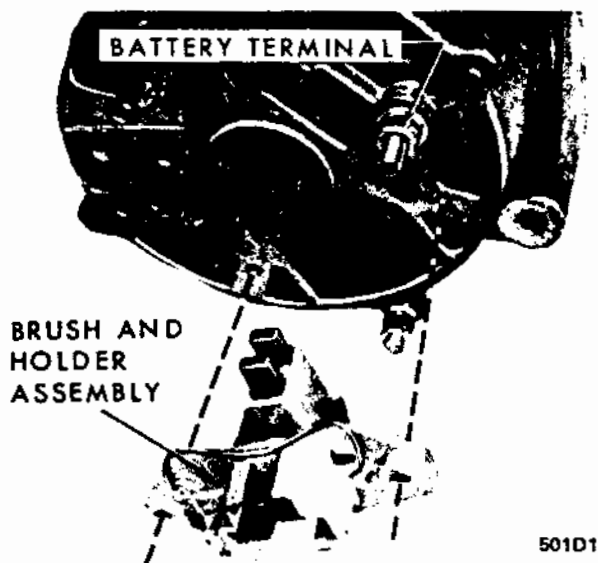

Figure 1D-1 Brush and Holder Assembly
2. Remove two screws and brush holder assembly. See Figure 1D-1.